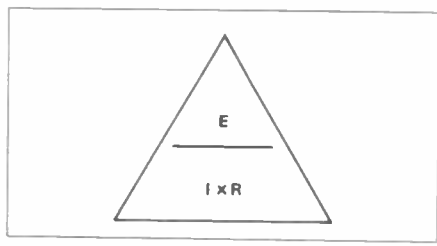

Figure 1. Ohms Law Triangle
How well and how quickly you will be able to do this will depend on your electrical knowledge and experience. So to assist you to acquire this electrical knowledge, let me briefly explain the fundamental principles underlying the units of electricity, and their application to an electrical circuit. The strength of a steady direct current of electricity flowing in a closed circuit is directly proportional to the electromotive force, and inversely proportional to the resistance of the circuit where I equals the current expressed in units of amperes (A), E equals the electromotive force expressed in units of volts (V), and R equals the resistance expressed in units of ohms ( $\Omega$ ). The above is known as Ohms Law, and states that the electromotive force divided by the current is equal to the resistance of the circuit, and is shown in a formula as  $R = E \div I$ . The current flowing in the circuit is calculated by dividing the electromotive force in volts, by the resistance in ohms, which is shown in formula as  $I = E \div R$ , and lastly, the electromotive force is found by multiplying the current in amperes by the resistance in ohms, which is expressed in a formula as  $E = I \times R$ . A simple method of remembering this formula is by drawing a triangle as shown in Figure 1, and by placing a finger over the *wanted* quantity, the required formula will be left. For example, to find resistance, place a finger over R, leaving  $E \div I$ . To find the current, place the finger over I, which will leave  $E \div R$ , and to find the electromotive force, place the finger over E, leaving  $I \times R$ .